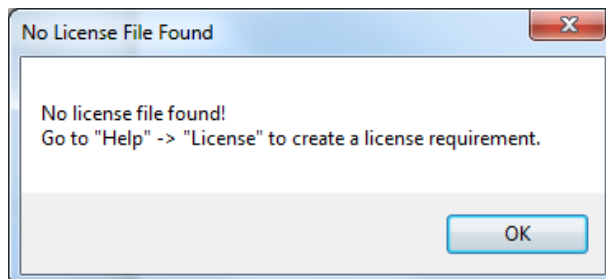
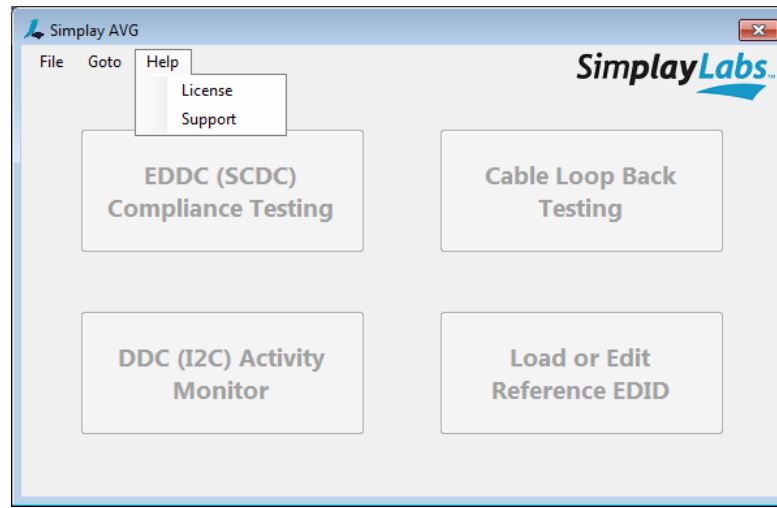

Figure 3.10. No License File Found Dialog
Figure 3.15. License Menu Item Enabled
5. A dialog pops up as shown in Figure 3.10. Click OK.
6. No License File Found dialog pops up as shown in Figure 3.10. Click OK. After that, the Help → License menu item is enabled (Figure 3.15).
Note: The Help → Support menu item (Figure 3.15) points you to the Simplay Labs website for technical support information.